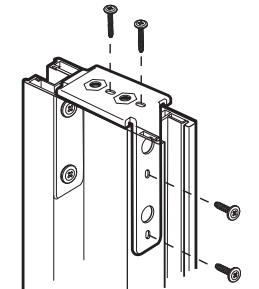

Figure 7
Insert U bracket (G) into the Top of the stile into the outside channel and the innermost channel. The side of the U clip with the larger holes should be facing the outside edge of the door. The top of the U clip will rest on the top of the stile once inserted. See Figure 7.
Insert two small screws (Q) into the oval holes on top of the U bracket and secure to the top of the stile. Take 2 small screws (Q) and secure into the oval holes in the outside of U bracket (G). This will be the outside channel of the stile. See Figure 7.